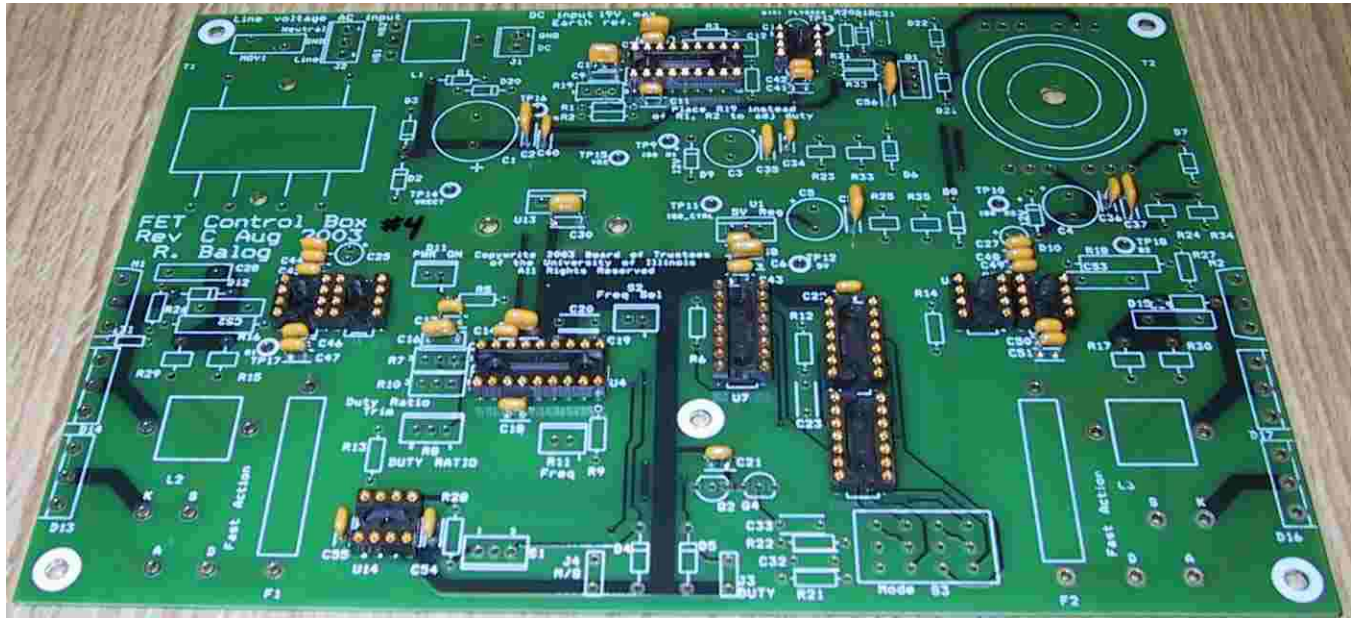

Figure 12: Sockets, $1\mu\text{F}$ and $0.1\mu\text{F}$ capacitors
3. Insert and solder $1\mu\text{F}$ and $0.1\mu\text{F}$ capacitors as in Figure 12.